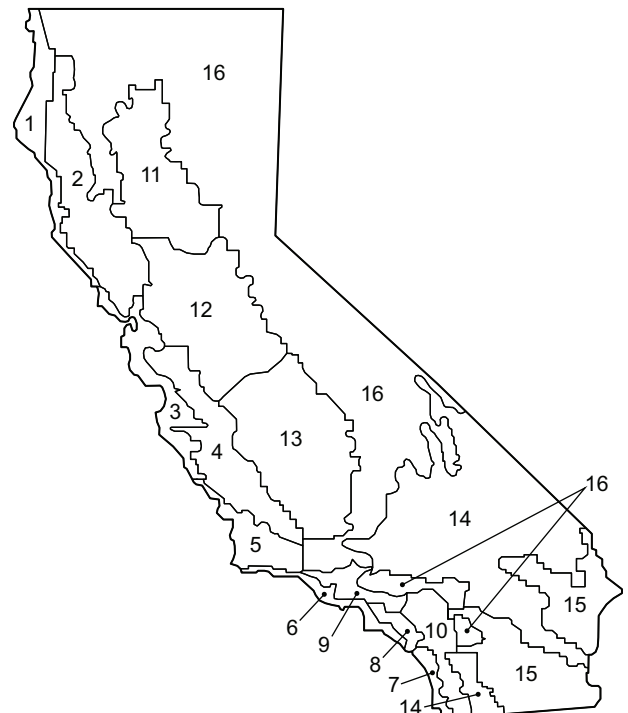

Fig. 71 – California Title 24 Zones
b. See Fig. 71 for map of California Title 24 zones.